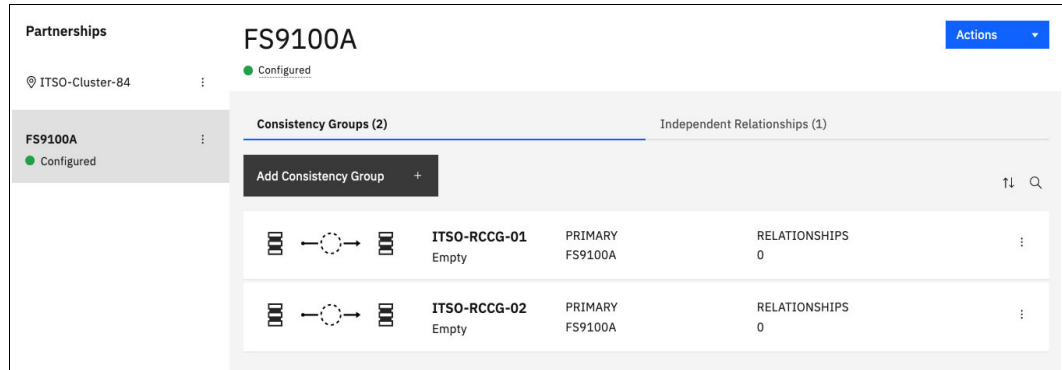

Figure 10-125 Remote Copy Consistency Groups tab
- Then, you can either add existing stand-alone relationships to the recently added consistency group, by selecting the **Independent Relationships** tab, right-clicking the relationship and clicking **Add to Consistency Group**, or you can create new relationships directly to this consistency group, by selecting it in the **Consistency Group** tab, as shown in the Figure 10-125, and then clicking **Create Relationship**.